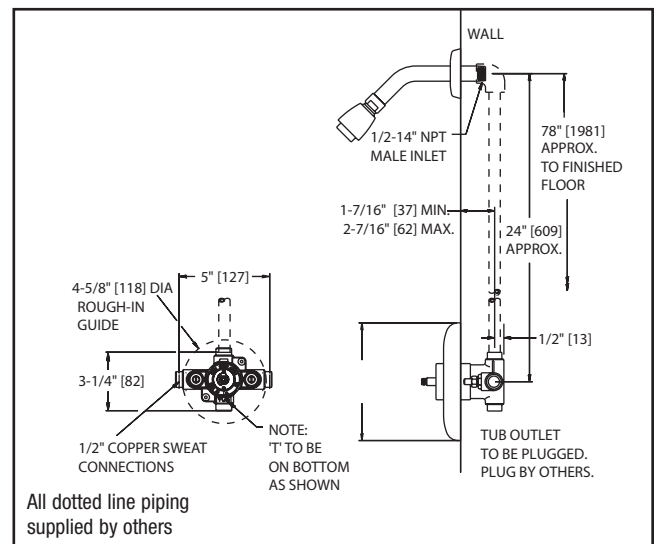

Figure 2: Rough-in Dimensions - Shower Only
- For **shower only installation** (see Figure 2). Pipe top outlet port "S" directly to the showerhead and plug bottom port.